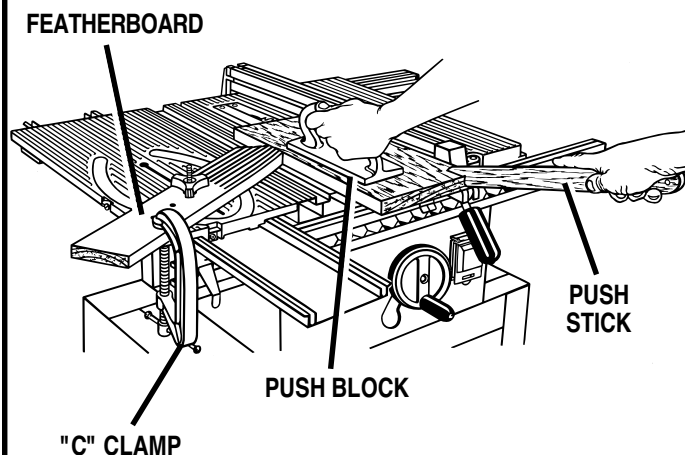

Figure 43: Making A Non-Through Cut
7. Always use push blocks, push sticks, and featherboards when making non-through cuts to avoid the risk of serious injury. *See Figure 43.*